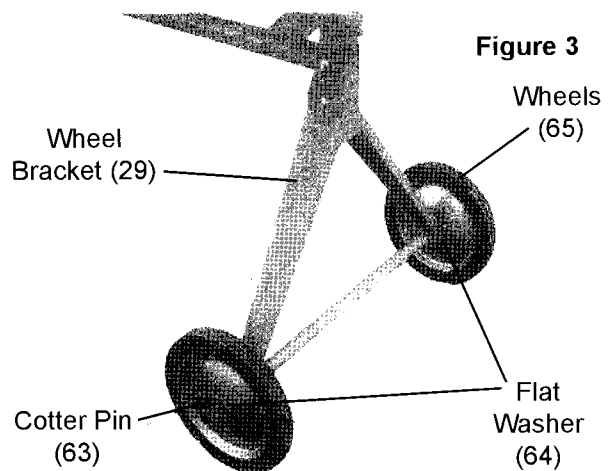

Figure 3
4. Fasten together using Hex Bolts (61), Flat Washer (37) and Hex Flange Nut (34). Tighten with a wrench until secure.
6. To attach Wheels (65) to Wheel Bracket, slide Flat Washer (64), Wheels and second Flat Washer onto Bracket axle. Then Insert Cotter Pins (63) into the Bracket's axle holes and split the ends. See Figure 3.